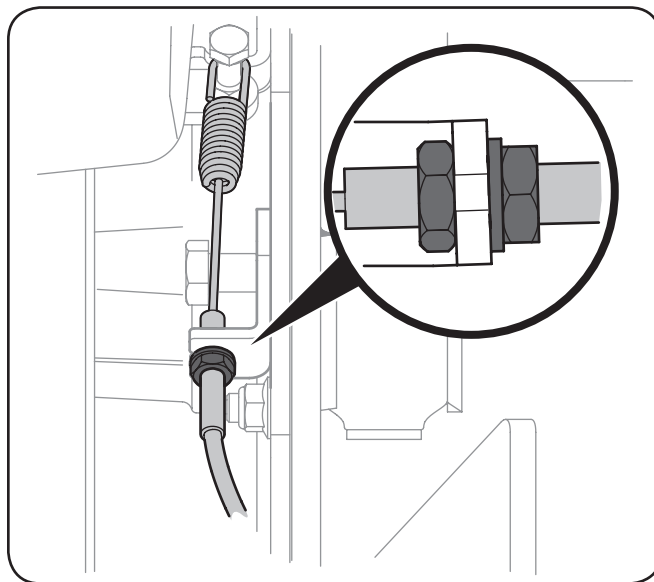

Figure 6-7
1. Locate the brake cable housing nuts on the outside of the frame and to the inside of the rear tires. See Figure 6-7.
2. Adjust the cable housing nuts one full turn and check parking capacity. Repeat if parking brake does not hold. See Figure 6-7.